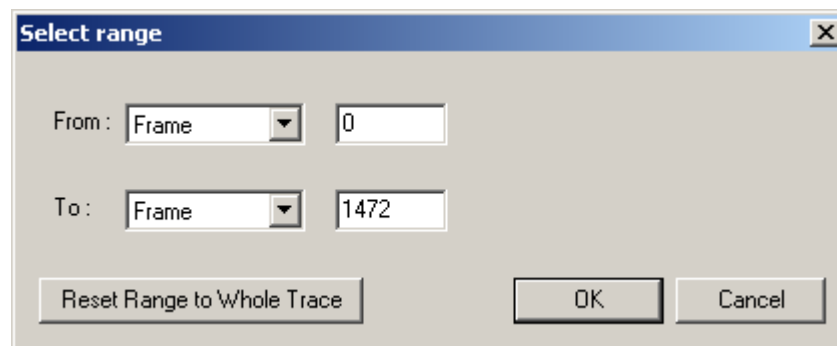

Figure 9.10 Select Range Dialog Box
- Step 4** The Select Range dialog box appears (Figure 9.10).